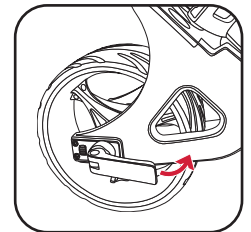

Fig 3
5. Tighten the wheel nut and push down the lever to lock the wheel back into place (fig. 3)